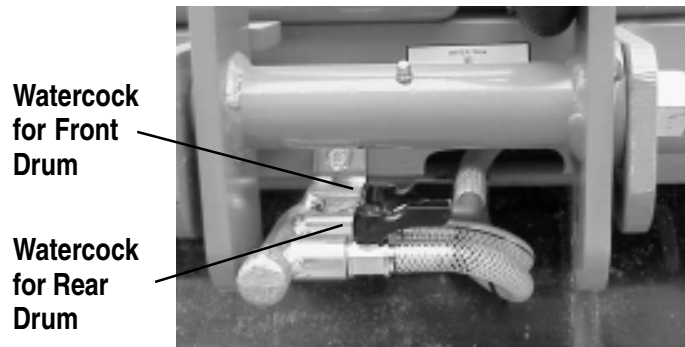

Figure 22. Water Cocks
1. For watering work, turn the water cocks clockwise, at the rear of the machine, to start sprinkling. (Figure 22).